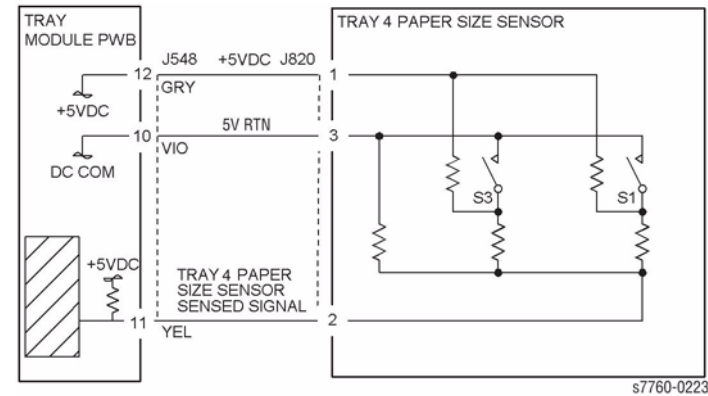

Figure 1 007-272 Tray 4 Paper Size Sensor
- Ensure that the connectors shown in the circuit diagram (Figure 1) are securely connected and that the wires are not damaged.